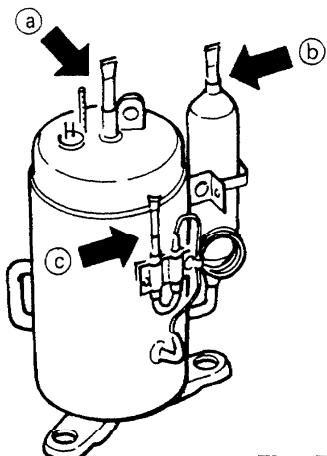

Fig. D-18
2. With an oxyacetylene torch and pliers, unbend the compressor seals (a), (b) and (c) Fig. D-18